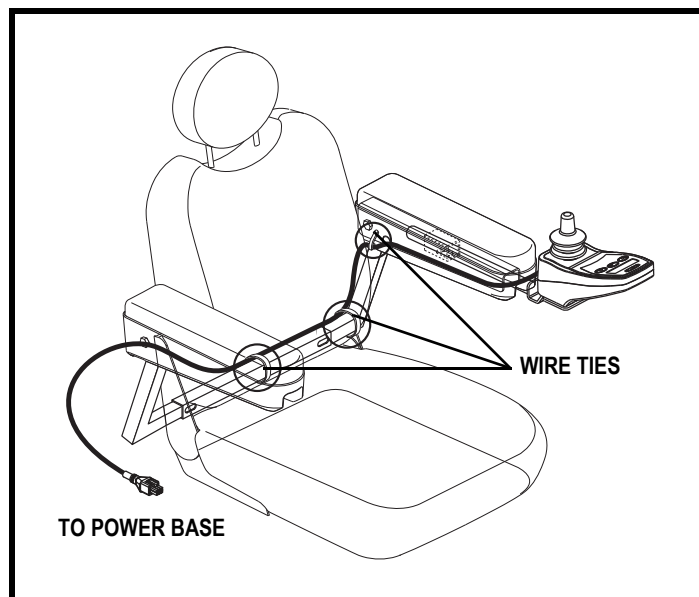

Figure 10. Controller Harness Routing on a Contour Seat
6. Secure the controller harness to the armrest receiver with wire ties. See figure 10.
2. Install the controller and route the harness to the back of the power. See figure 10.